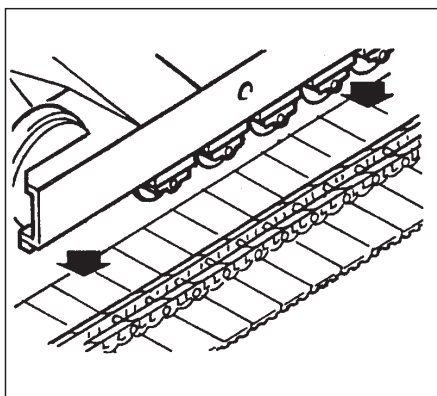

Fig. 3-15 Crawler To Track Chain
4. Lay track chain with grousers attached, flat on ground. Place crawler assembly over track chain (fig. 3-15) so that the idler is near the end of the track chain.